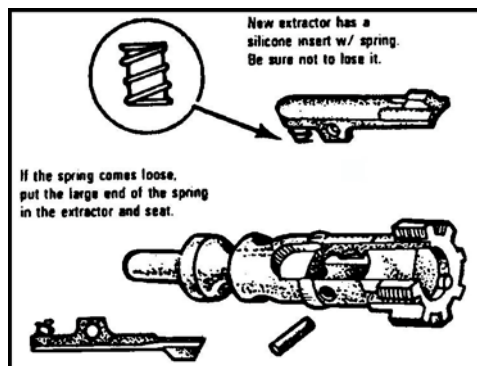

Figure 25. Placing the extractor and spring.
- b. Insert the extractor and spring (Figure 25).